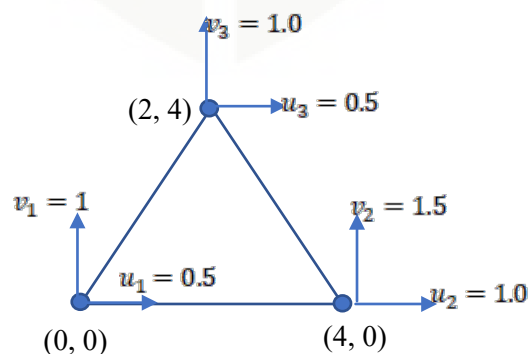

Fig.3.
8. The nodal displacement components (in mm units) of a triangular element from the finite element analysis of a thin plate is shown in Fig.3. Develop appropriate approximations for the u and v fields within the element in terms of area coordinates .
- (ii) Compute the consistent nodal load vector when a surface traction of uniform intensity w N/m length acts normal to the edge containing nodes with coordinates (4,0) and (2,4) of the triangular element shown in Fig.3. (5 marks)